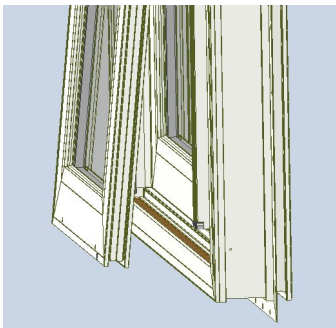

Figure 6
- Install operating panel into the INSIDE track, with the interlock facing the exterior of the building, and the roller wheels on bottom of panel. To install, push top of operating panel into the inside track of the frame's head channel, lift completely up, and swing bottom of panel into the frame's sill channel (Figure 6).